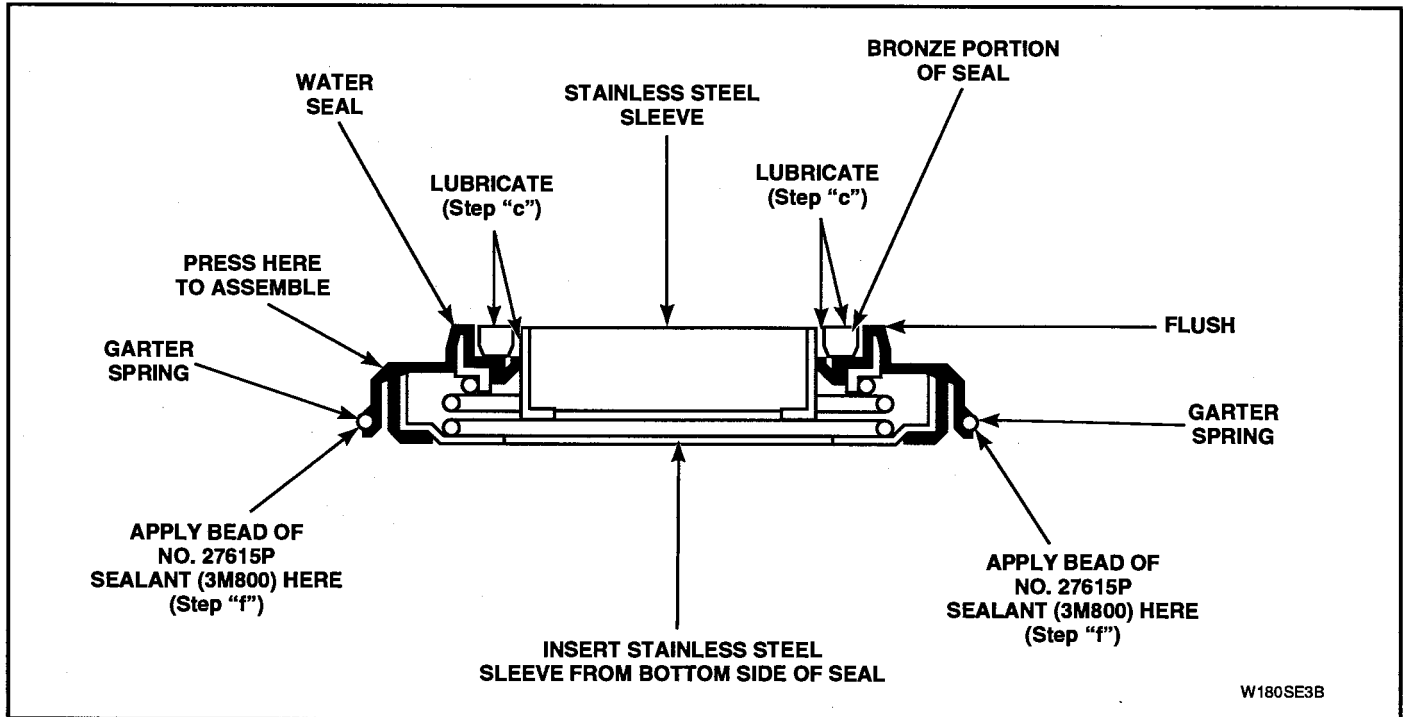

Figure 5-35
- Apply a small amount of No. 27615P Sealant (3M800) (obtain from local Parts Distributor) around outer surface of tub flange. See Figure 5-35.
- Apply a light film of nonstaining petroleum jelly (such as Vaseline®) to bronze portion of water seal and to outer surface of stainless steel sleeve. See Figure 5-35.
- Insert stainless steel sleeve into water seal from bottom of water seal. See Figure 5-35, until stainless steel sleeve is flush with bronze portion of water seal.
- Carefully apply a small amount of No. 27615P Sealant (3M800) (obtain from local Parts Distributor) around outer edge of water seal and tub (area located just below garter spring). See Figure 5-35.